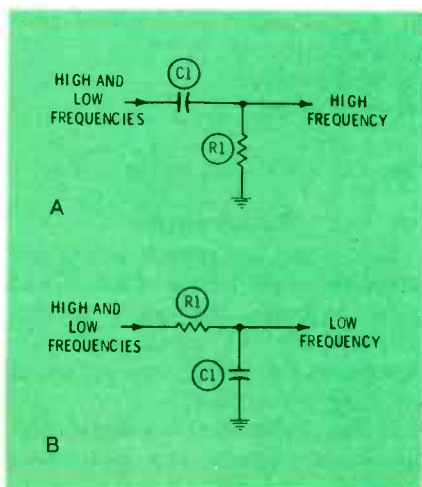

Figure 1
4. Which of the circuits in Figure 1 is a low-pass filter?: